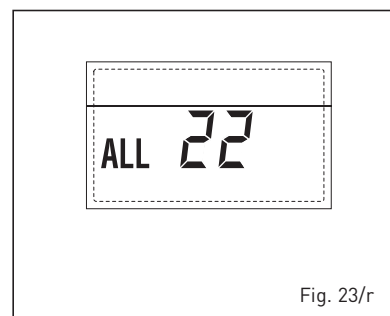

Fig. 23/r
**- ANOMALIA AVARIA SONDA IMPULSÃO SEGUNDA ZONA MISTURADA "ALL 23" (fig. 23/s)**